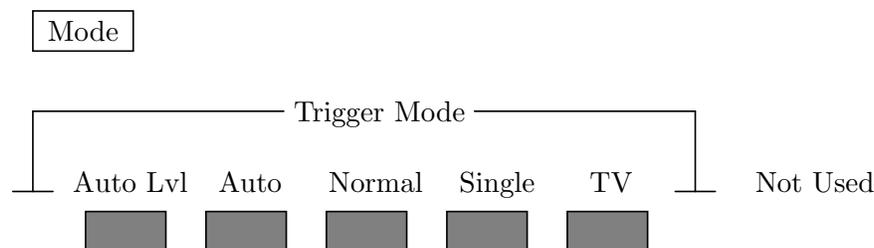

Figure 2:
The various signal processing functions are chosen by using a combination of hardwired (hard) keys, push button switches on the front panel to the right of the screen, and software controlled (soft) keys, push button switches below the screen. Each hard key calls up a menu of choices you can make using the soft keys. Figure 2 shows an example of a menu if the MODE hard key is pushed.
2. For each hard key, complete a diagram similar to Figure 2. You should have diagrams for the following hard keys: 1, 2, \pm , Main/Delayed, Source, Mode, Slope/Coupling, TV, Print/Utility, Cursors, Display, Setup, Trace, Voltage, and Time. Please note that the last two keys have two menus. The keys grouped under the heading of "Measure"–Voltage, Time and Cursors– will be used most frequently. The following two procedures will allow you the opportunity to experiment with these functions.